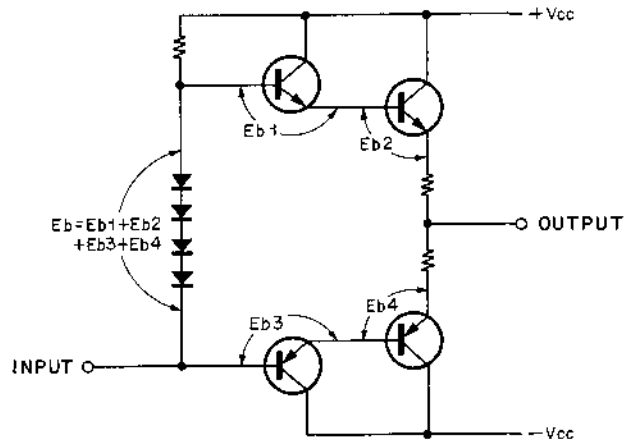
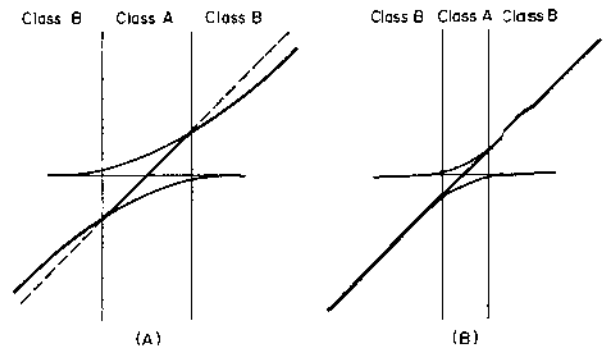
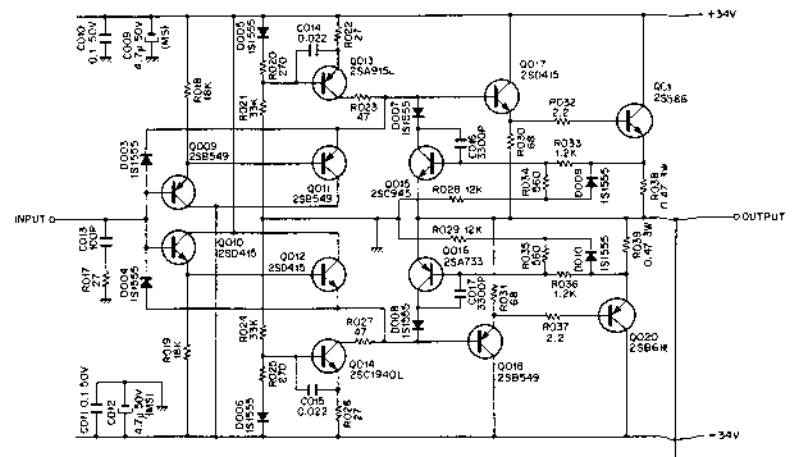

Fig. 2.4
Fig. 2.5
Fig. 2.3
Especially for a class B push-pull amplifier, distortion cannot be reduced unless the positive and negative signal amplifiers are well balanced. The amplifier in the 420, however, is best balanced thanks to the vertically and horizontally symmetric configuration as shown in Fig. 2.3. This circuit allows distortion of only 0.1% at 1KHz 50 watts output even without NFB. This degree of distortion is low enough to make the amplifier used as a high-fidelity unit even if it is given no NFB.
Fig. 2.4 shows that a change in current flowing across the diode varies the terminal voltage and that E_B changes with signal current. These changes result in the generation of distortion. It is a matter of course that signal current flowing across the diode will produce distortion. See Fig. 2.3. Transistors Q009, Q011, Q010 and Q012 that generate bias voltage form an emitter-follower circuit of class A operation. Thus this circuit does not induce distorted signals.
For an ordinary class B amplifier, crossover distortion is reduced by increasing idling current thus overlapping the operating ranges of the positive and negative transistors. The overlap portion acts as a class A amplifier. Generally, the degree of amplification decreases where a change takes place from class A to B and no linear curve is obtained as shown in Fig. 2.5 (A). However, if the circuit shown in Fig. 2.3 is current-driven, a linear curve can be obtained at the point of change from class A to B as shown in Fig. 2.5 (B).